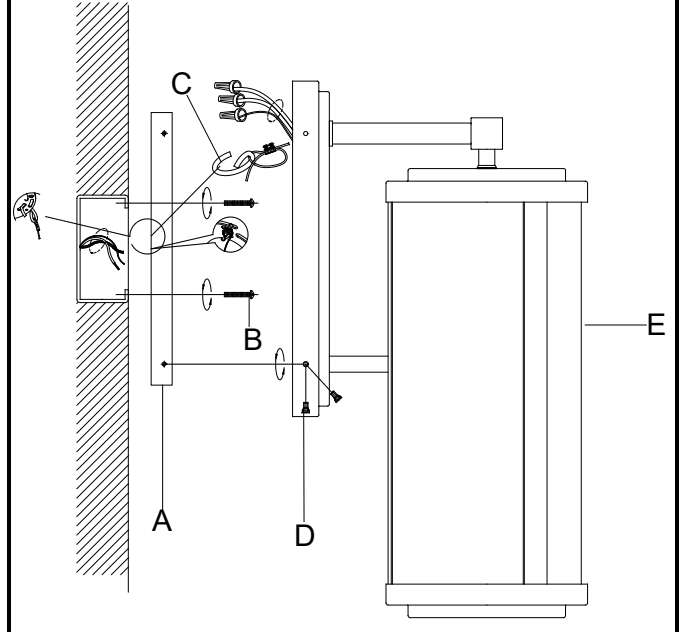

Fig. 2
### CONNECTING THE WIRES (Fig. 2)
5. Connect electrical wires as shown in Fig. 2, making sure that all wire connectors are secured. If your outlet box has a ground wire (green or bare copper), connect fixture's ground wire to it. Otherwise, connect fixture's ground wire directly to mounting plate (A) using green screw provided.